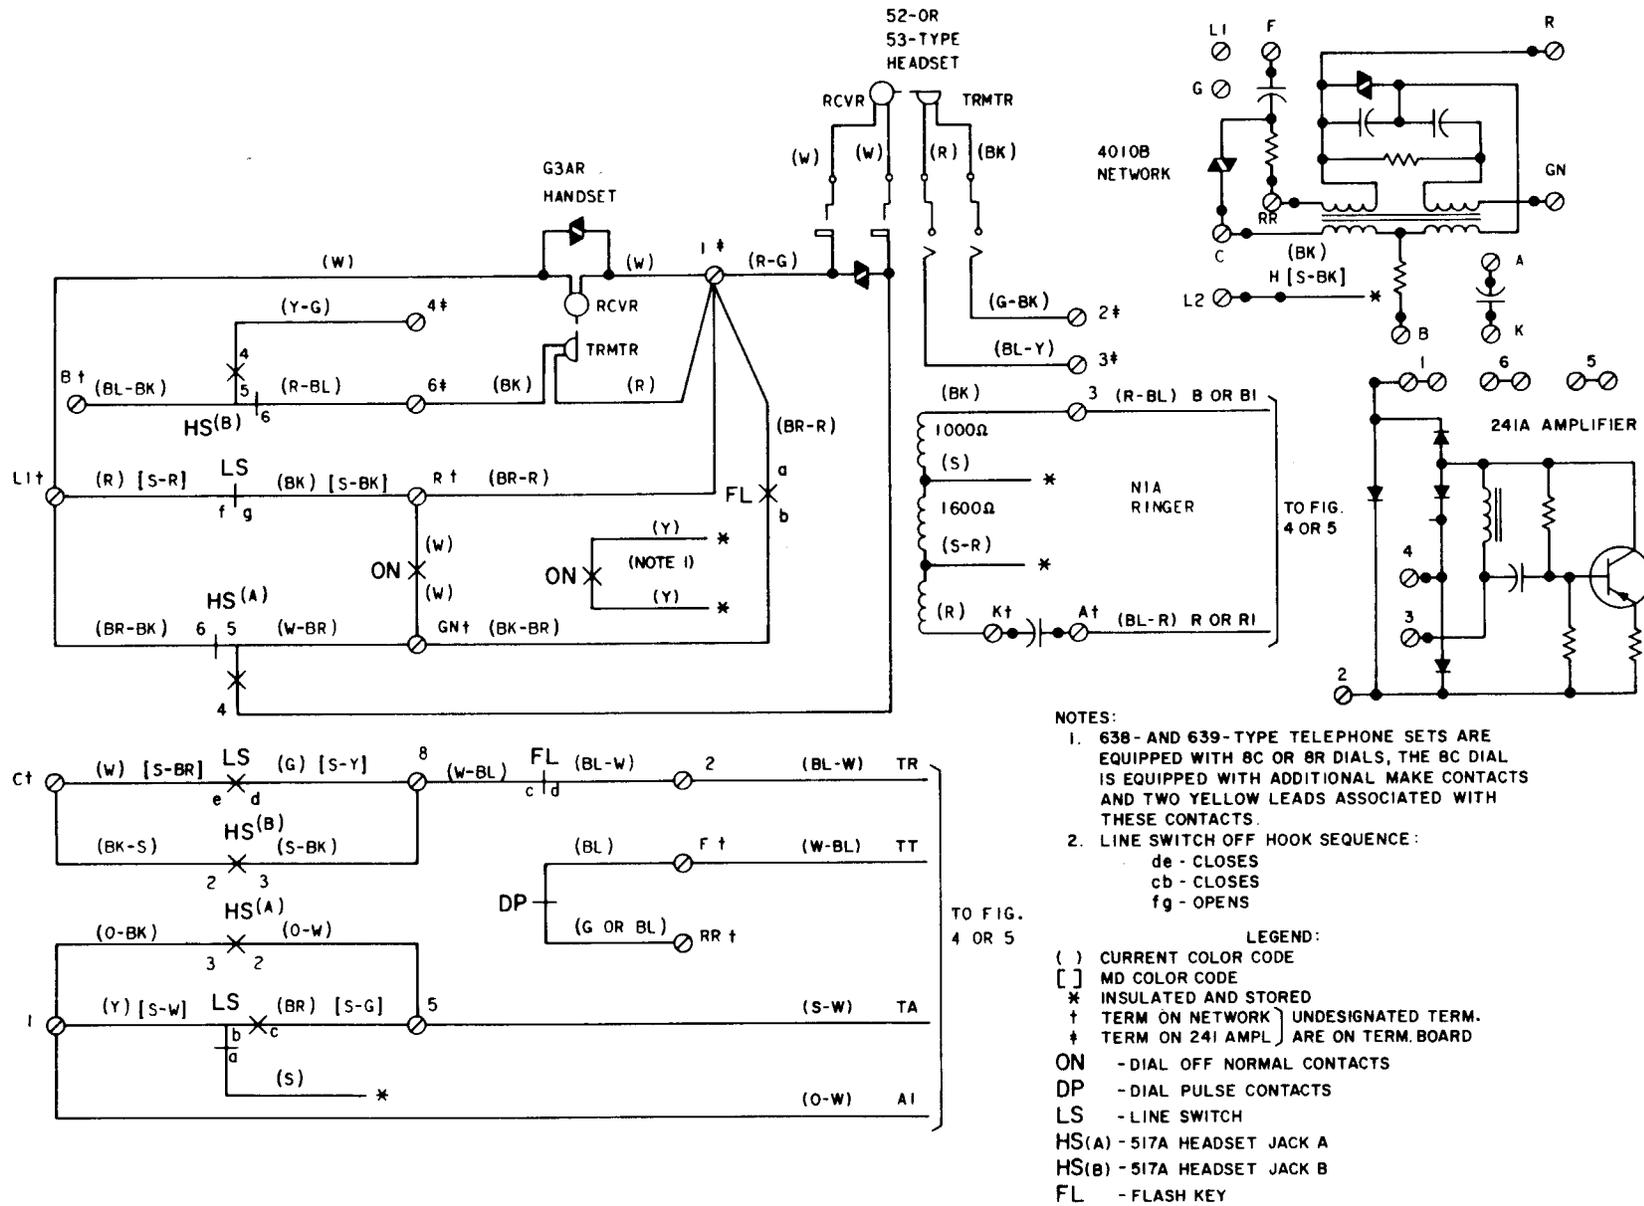
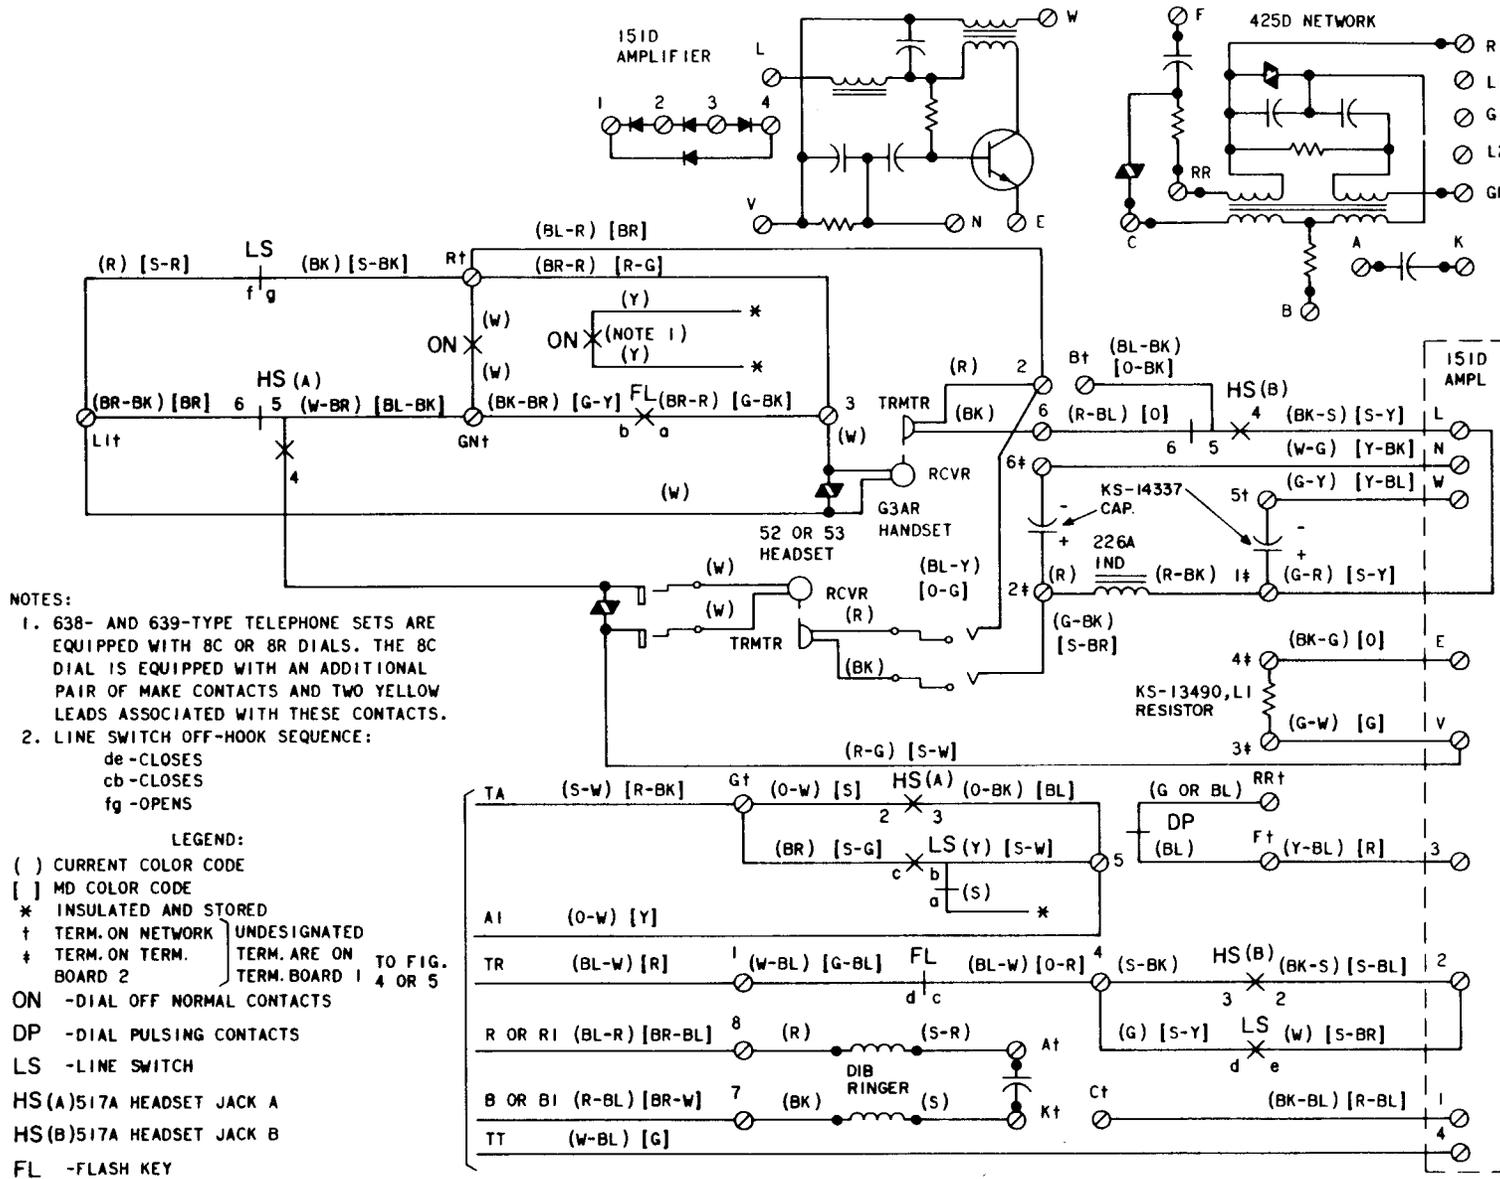

Fig. 1—638- and 639-Type Telephone Set, Connections (Current Production)
Fig. 2—638- and 639-Type Telephone Set, Connections (Early Production)
5. CUTOFF OF THE INTERNAL RINGER CAN BE PROVIDED USING THE 599B OR 657B KEY IN FIRST MODULE. TRANSFER B1 LEAD FROM TERMINAL 3 OF TERMINAL BOARD (FIG.1) OR TERMINAL 7 OF TERMINAL BOARD (FIG. 2 OR 3) TO TERMINAL 6 OF TB1 (FIG.4 OR 5) TRANSFER (R) [S-BK] LEAD FROM TERMINAL 5 OF TB1 (FIG.4 OR 5). TO TERMINAL VACATED BY B1 LEAD.
3.05 Two KS-14337 capacitors on terminals 1 and 5, and 2 and 6 may be replaced if defective. These capacitors are polarized electrolytics and polarity must be maintained (Fig. 2 and 3).